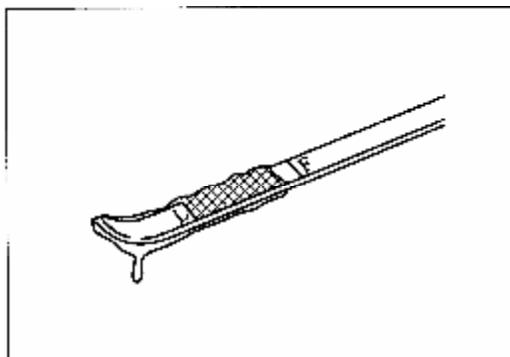

Figure 3-47 Check Oil Volume in Oil Pan with the Dipstick
Check the volume of engine oil in oil pan with the dipstick. The oil level should be within upper and lower scales of the dipstick. If the oil level is below the lower mark (L), check for leakage and fill with engine oil till the oil level reaches upper scale (F) (see Figure 3-47).